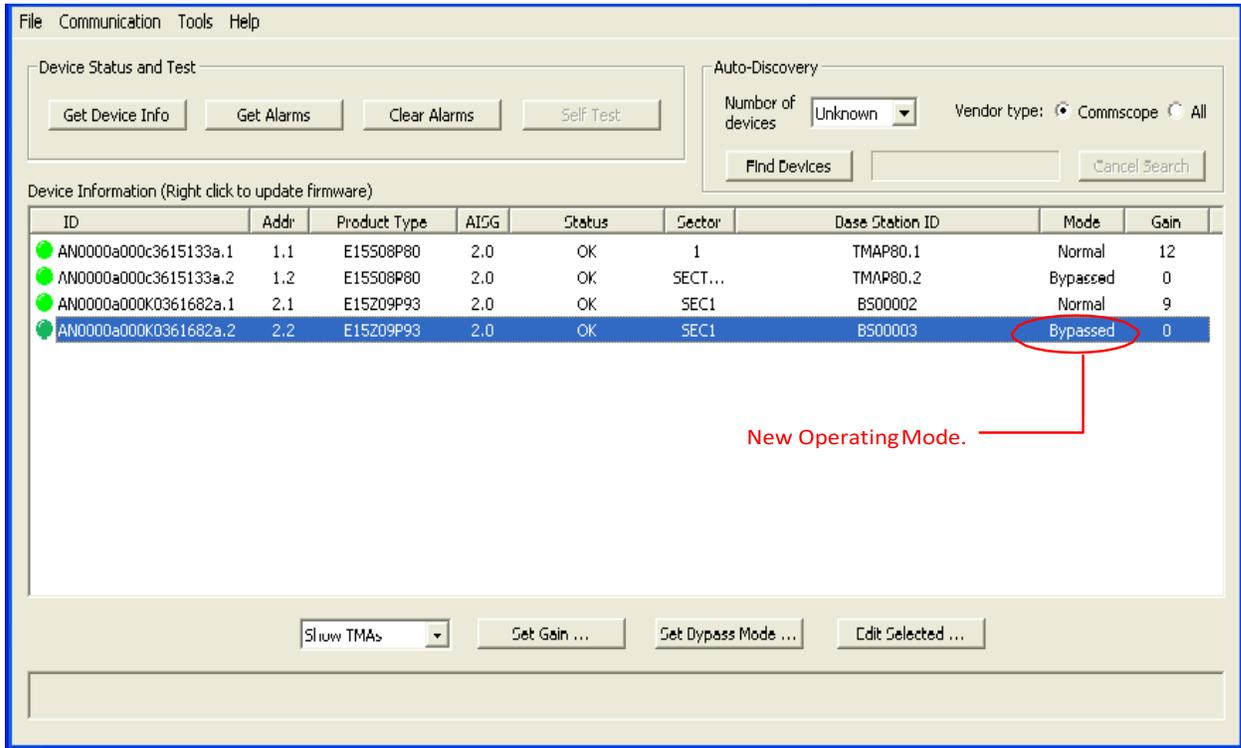

Figure 14-4. Operating Mode changed for TMA
8. When the operating mode of the TMA has been successfully completed, the Column **Mode** will display the new mode (Figure 14-4).